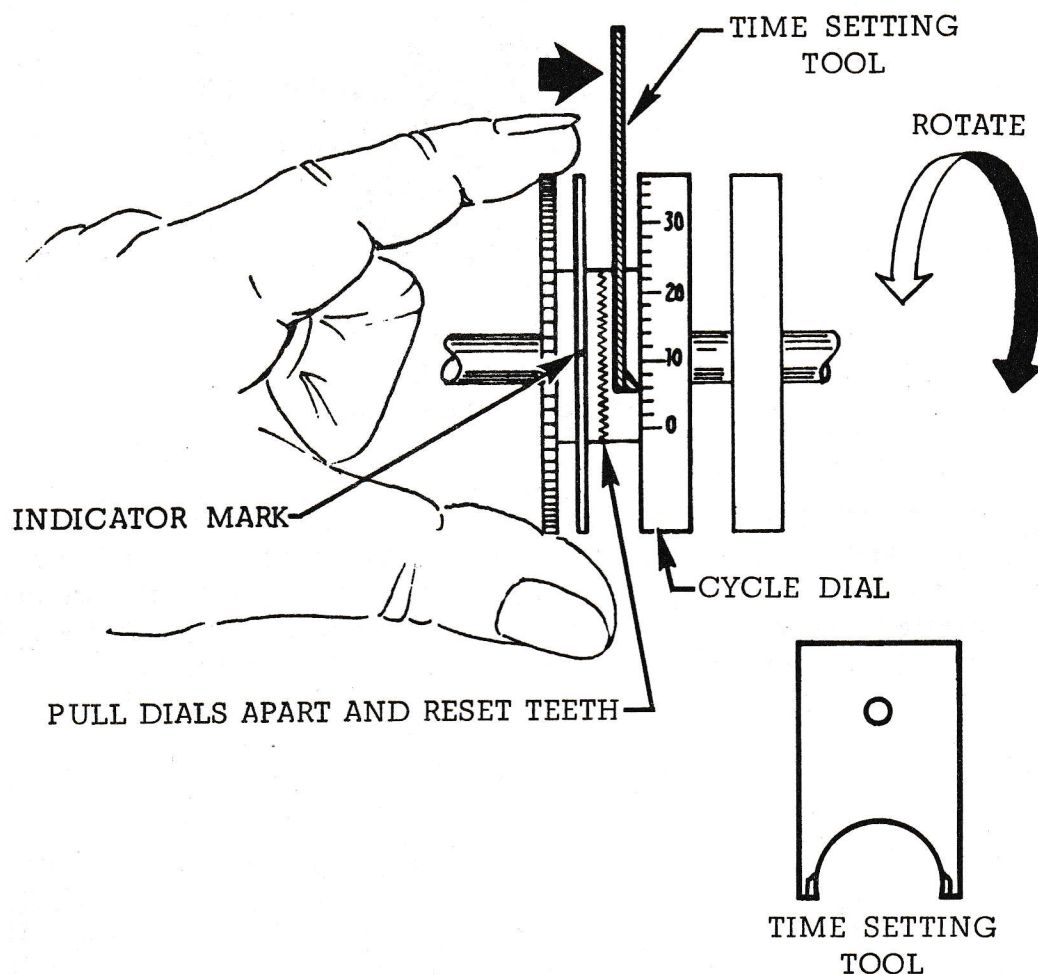

Figure VIII-4
2. Insert the tool in the cycle dial as shown in Figure VIII-4.